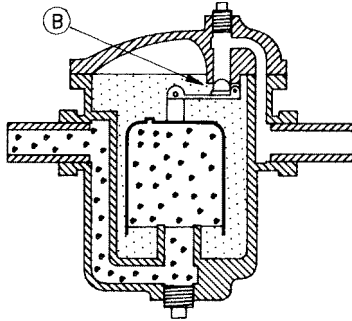

FIGURE 3
**Figure 3:** At temperature, steam enters under the bucket and causes it to float up and close the valve (B). During heat use, any condensate entering the line is forced up into the bucket. The bucket loses buoyancy and drops down, reopening the valve and discharging the condensate. (see Figure 1)